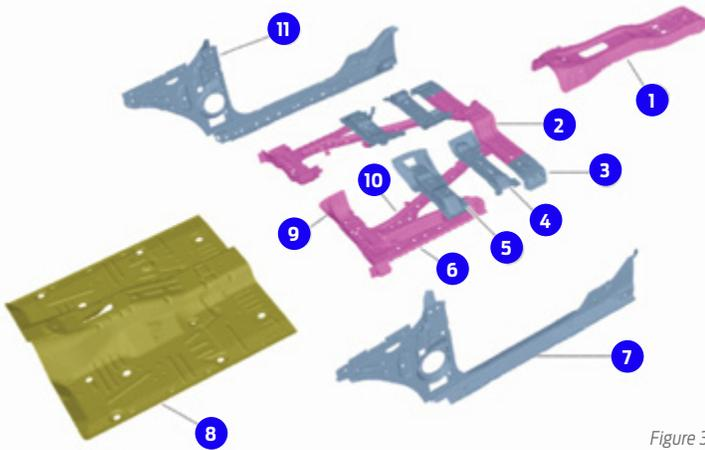

Figure 3
### Front Floor (Figure 3)
6. Apply metal bonding adhesive to both inner side panels and clamp into proper position utilizing the 6.5 mm drill bit to prepare additional blind rivet guide holes, and then install the blind rivets. (Figure 3)